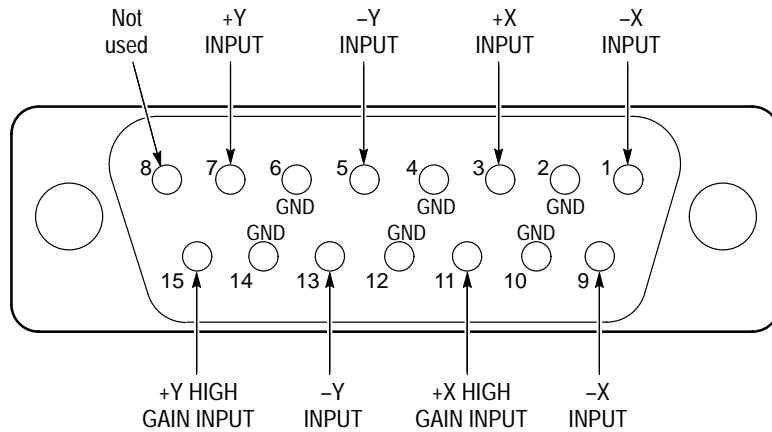

Figure 5-5: Rear-panel XY INPUT connector showing inputs.
- a. Connect the Function Generator output to pin 3 (+X) of the 1720/1721 rear-panel XY INPUT connector, using an alligator clip to bnc adapter. Connect the red alligator clip to pin 3. See Figure 5-5.
- a.** Connect the Function Generator output to both pins 3 (+X) and 7 (+Y) of the XY INPUT connector, using the red alligator clip. Leave the black alligator clip connected to pins 1 and 5. See Figure 5-5.
- a. Connect the Function Generator, using the red alligator clip, to pin 3 (+X) of the 1720/1721 rear-panel XY INPUT connector. Leave the black alligator clip connected to pins 1 and 5. See Figure 5-5.
- i.** Connect the Function Generator output to pin 11 (+X HIGH GAIN) and ground pin 9 (+X) of the 1720/1721 rear-panel XY INPUT connector. See Figure 5-5.